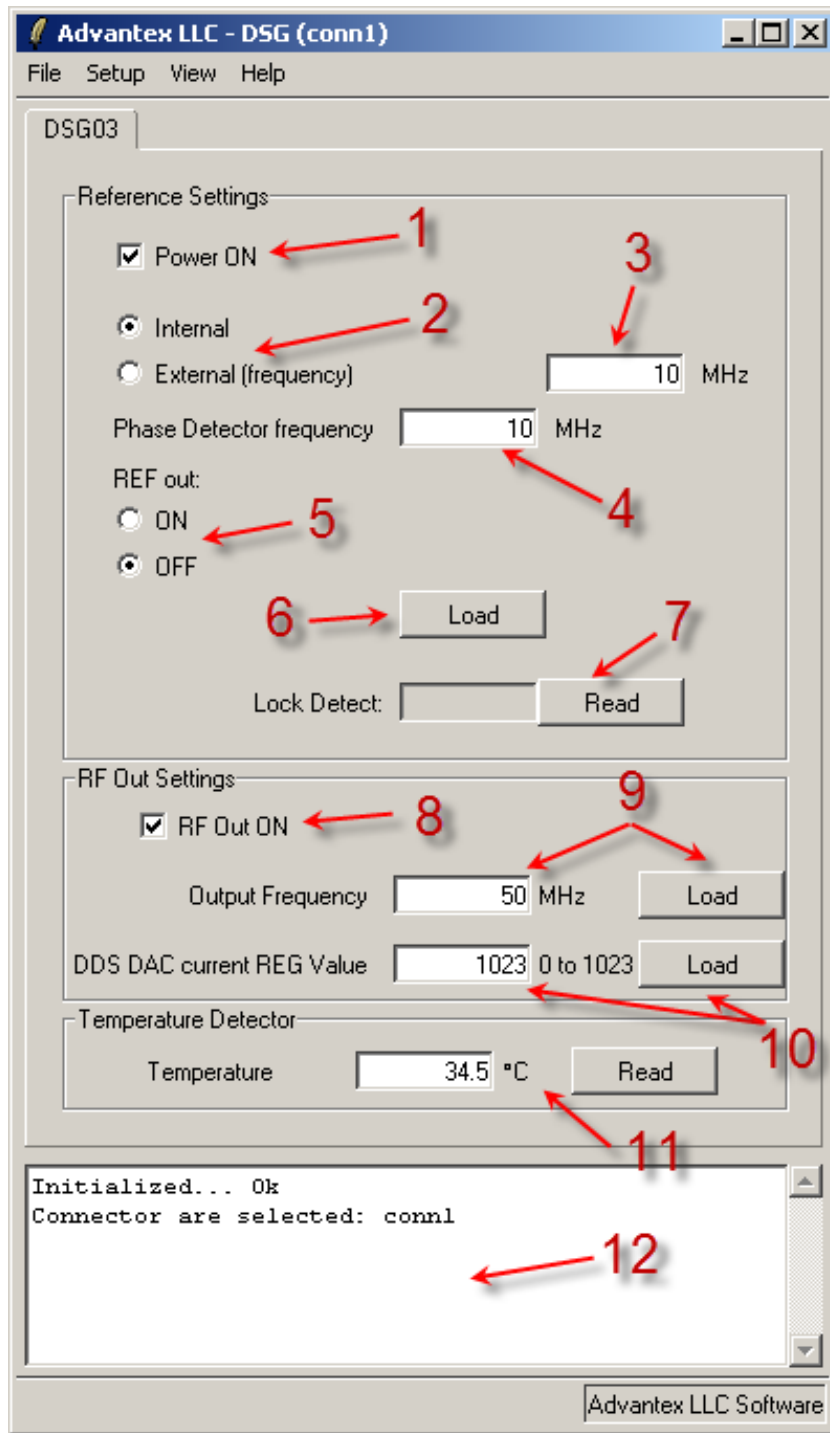

Figure 9: DSG tab
9. To start working with DSG-module set Power ON checkbox (fig. 9, Item 1), press Load button (Item 6), then set RF Out ON checkbox (Item 8), specify frequency and press Load button (Items 9). After pressing Load buttons (Items 6 and 9) power consumption will increase up to 0.5A if RF Out ON checkbox is checked (i.e. output stage amplifiers are on), and 0.35A if unchecked (output stage is off). You can read internal temperature of the block by pressing Read button (Item 11).
10. If you need to use external reference, please check the box External (frequency) (fig. 9, Item 2), set the reference frequency value (Item 3), set phase detector frequency (Item 4) and press Load button (Item 6). External frequency should be in range 1 to 250 MHz and multiple to phase detector frequency since DSG uses N-integer PLL for DDS clock. PLL loop is optimized for 10 MHz PFD frequency but other values multiple to 1MHz (starting from 1 MHz) also can be applied. To check whether the PLL in locked condition press Read button (Item 7). If PLL is not locked, please try another PFD frequency (Item 4). Usually 1MHz PFD frequency leads to DSG PLL lock.